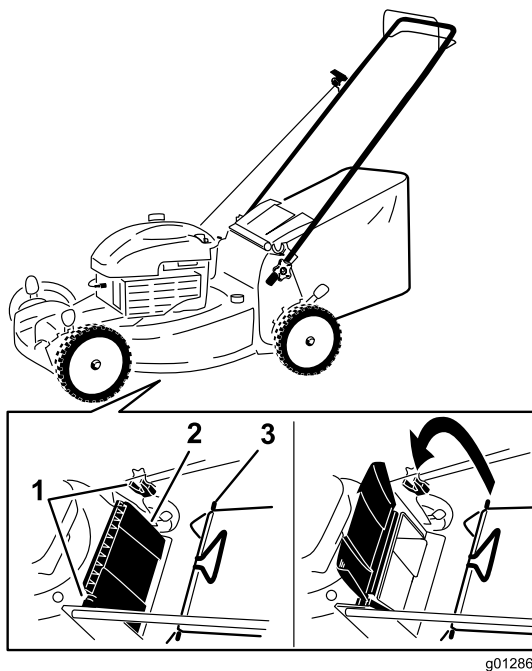

Figure 13
1. Raise and hold up the rear deflector (Figure 13).
2. Install the grass bag, ensuring that the pins on the bag rest in the notches on the handle (Figure 13).